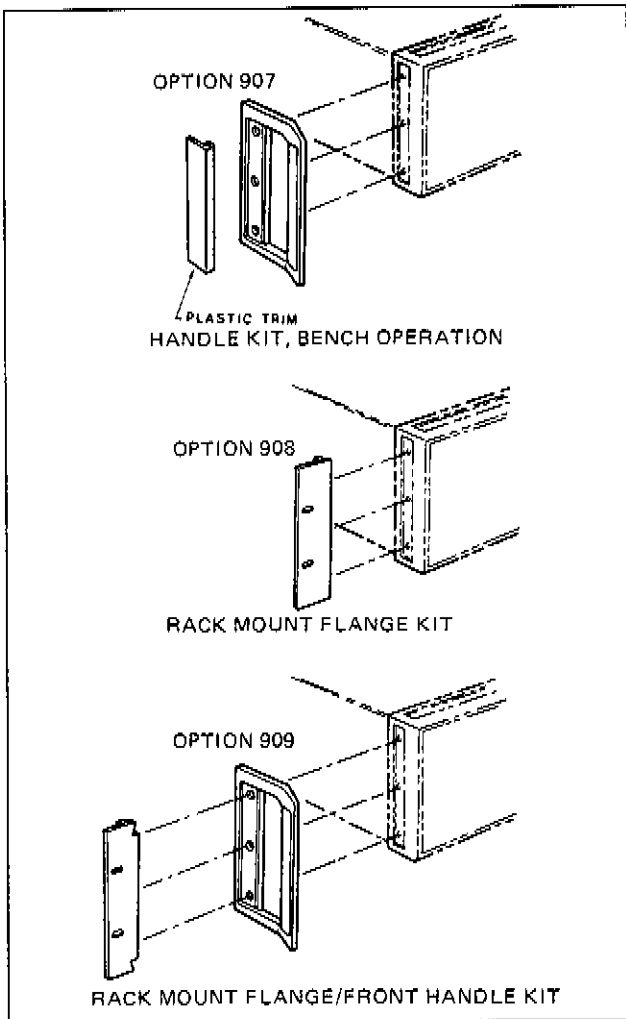

Figure 2-4. Rack Mount and Handle Kits.
2-27. The instrument has plastic feet attached to the bottom panel. The front feet contain foldaway tilt stands for convenience in bench operation. The tilt stand raises the front of the instrument for easier viewing of the control panel. The plastic feet are shaped to make full-width modular instruments self-align when they are stacked. A front handle kit, -hp- Part No. 5061-0089 (Option 907), can be installed for ease of handling the instrument on the bench (see Figure 2-4). The kit is shipped with the instrument if Option 907 is also ordered. Otherwise, the front handle kit is available separately by its -hp- part number.
*The Rack Mount Flange Kit of item a will not provide the space requirement for rack mounting when used with the bench handle assembly (-hp- Part No. 5060-9899, Option 907). To rack mount with handles, the combination kit of item b (Option 909) must be used (see Figure 2-4). If either Option 908 or 909 is ordered, the corresponding kit is shipped with the instrument. Otherwise, both kits are available separately by their -hp- part numbers.*